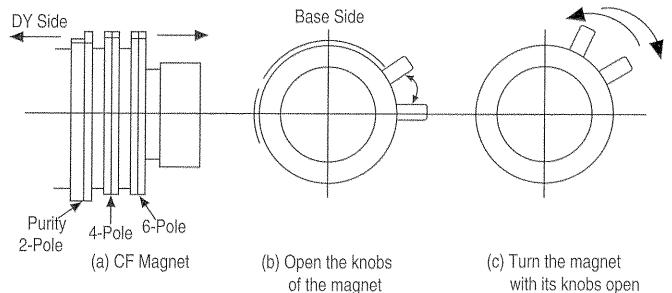
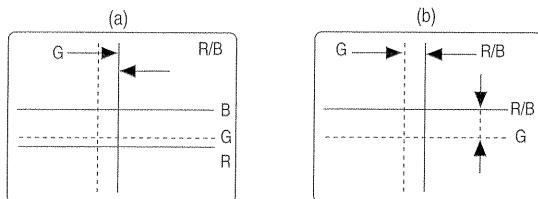

Fig. 2-19
Fig. 2-20
(2) Open the knobs of 4-pole magnet (2 sheets) (Fig. 2-19 (b)) and match the blue-red vertical lines at the center of
the screen as shown in Fig. 2-20 (a).
- (3) Turn the 4-pole magnet with its knobs open (Fig. 2-19 (c)) and match the blue/red horizontal lines as shown in Fig. 2-20.